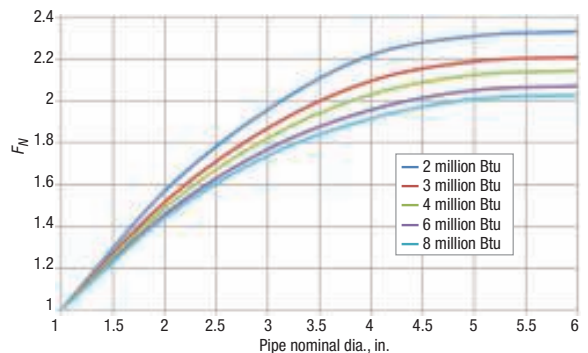

FIGURE 5. The adjustment factor for mineral wool, F_D , for pipe sizes other than the base case (1 in.)
Figure 5 shows the behavior of F_N with nominal pipe diameter for various energy costs (for mineral wool).
Step 3. From Figure 5, determine the value of F_N to correct the pipe diameter from the base size of 1 in. For $x = 2$ in. the intersection of the line that corresponds to the given cost of energy (\$2/million Btu) is at $F_N = 1.56$.
Step 6. Use Equation (16), and multiply the factors found in the previous steps by the base case optimal thickness to obtain the optimal thickness = $0.16 \times 1.75 \times 1.56 \times 1 \times 1 = 0.4368$ in.